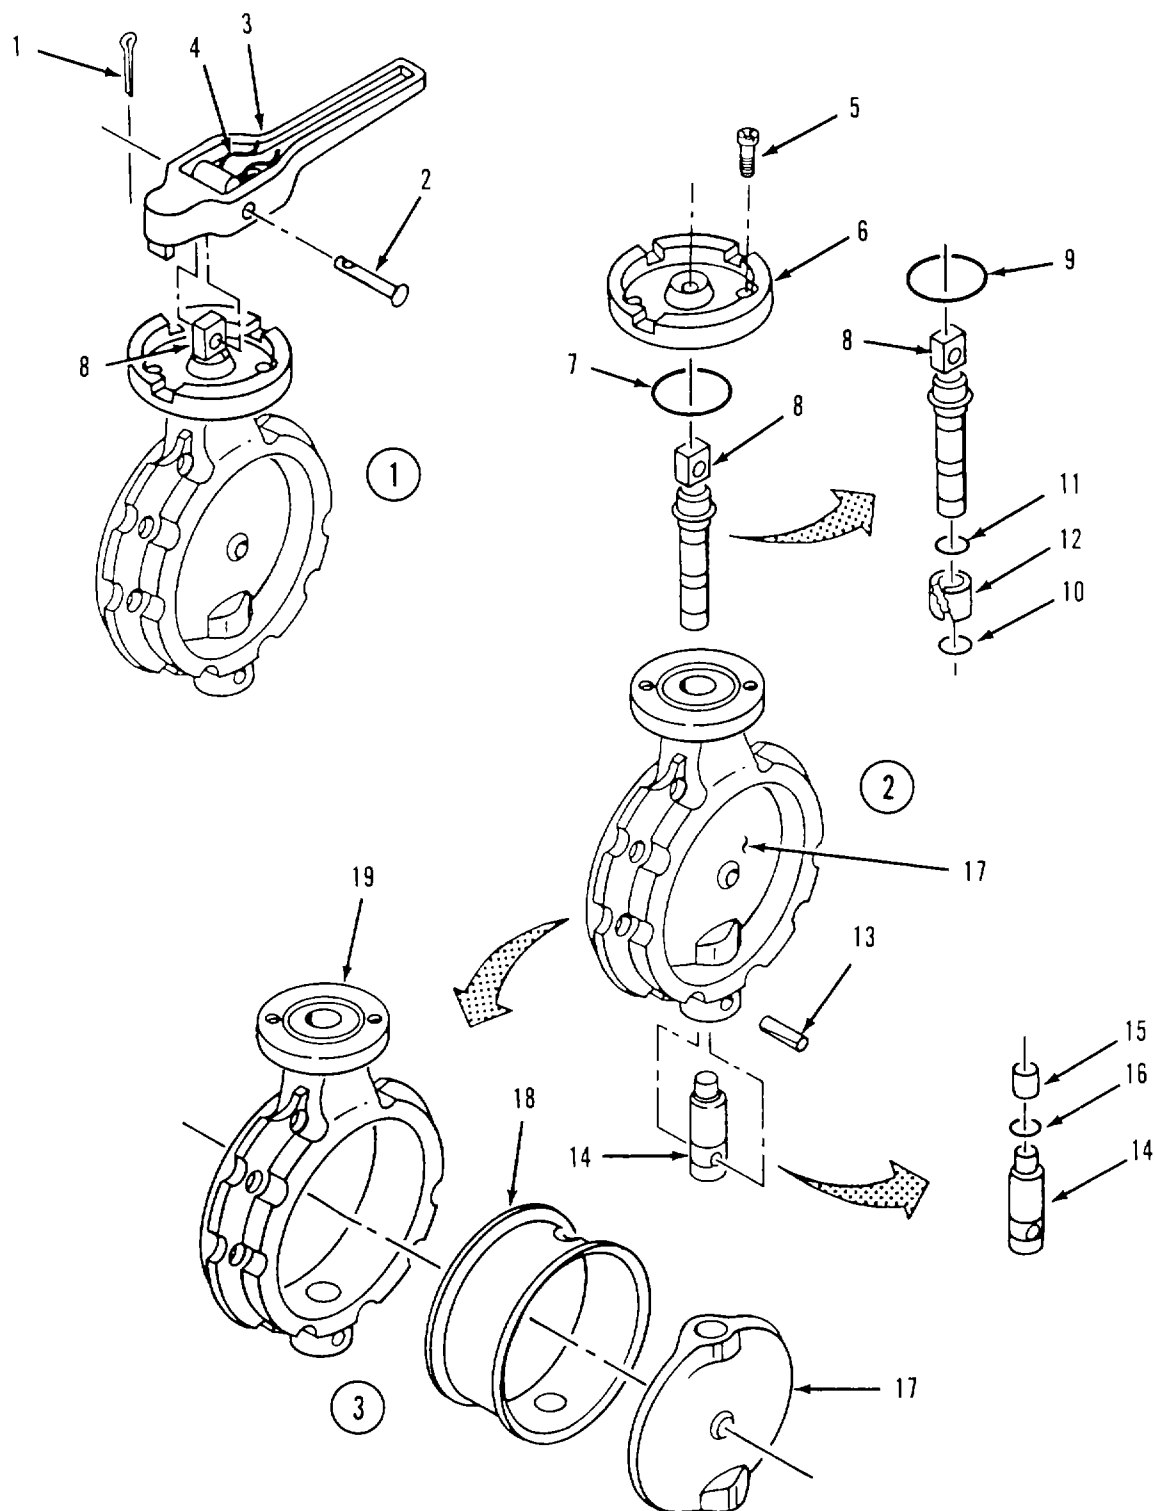

Figure 4-17. Butterfly Valve Repair.
Butterfly valve disassembly. Refer to figure 4-17.
- (2) Inspect body (19, figure 4-17), handle (3), disc (17) and stop plate (6) for cracks and corrosion.
- (3) Inspect top stem (8) and bottom stem (14) for cracks, deep scratches and corrosion.
Butterfly valve assembly. Refer to figure 4-17.